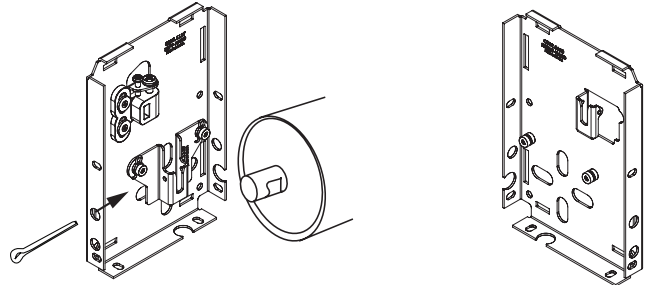

Figure 3
- ⑤ Install the motorized (take-up) Roller Assembly into the lower/back position. Place operator end into its endcap, then slide notched pin into idler endcap and attach Retaining Clip (see Fig. 3). The Retaining Clip must be installed around the idler-end shaft as shown to prevent the roller assembly from moving left or right during operation.